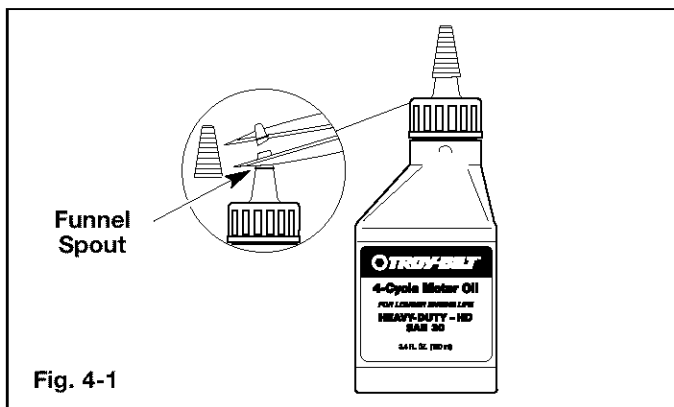

Fig. 4-1
1. Unscrew the top of the bottle of oil and remove the paper seal covering the opening. Replace top. Cut the tip off the funnel spout (Fig. 4-1).
Your unit is supplied with one 3.4 fluid oz. (100 ml.) bottle of SAE 30 SF, SG, SH oil (Fig. 4-1).